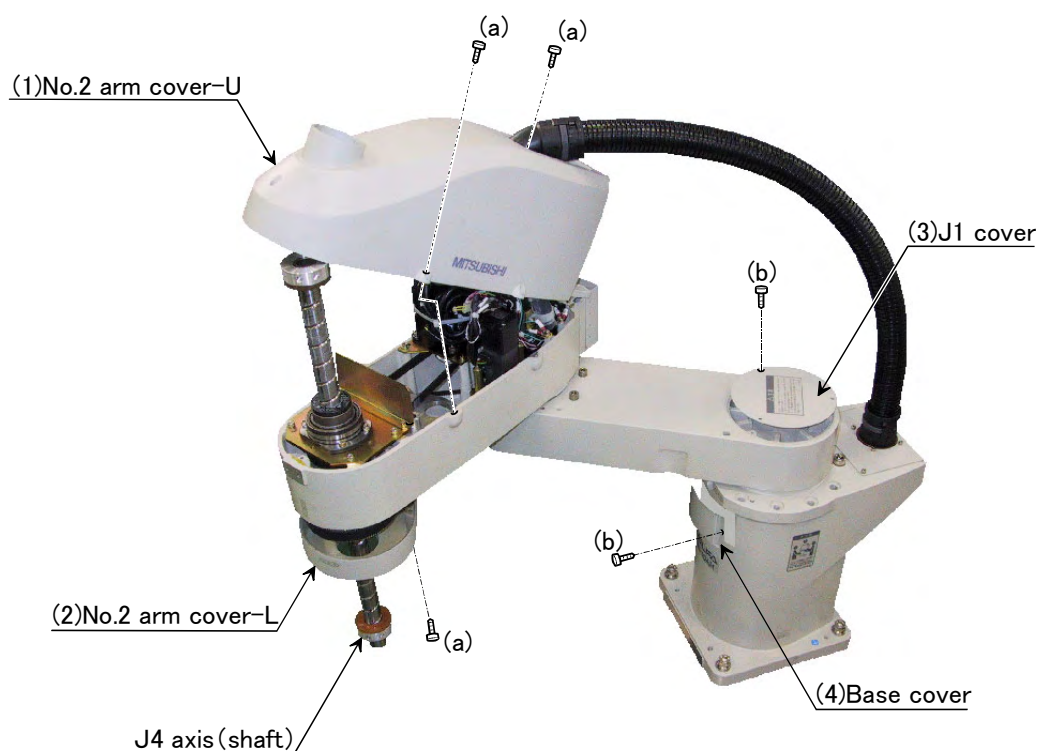

Fig.5-3 : Installing/removing the cover
- (1) Referring to Fig. 5-3, remove the covers.
- (2) Table 5-3 lists the names of the covers and installation screws.
- (3) Lower the J4 axis (shaft) using jog operations before removing the No.2 arm cover-U.
- (4) When reattaching the covers after a maintenance inspection, proceed in the reverse order of their removal.
- 2) Refer to Fig. 5-3, and remove the No.2 arm cover-U.
- 4) Check the belt tension as shown in Page 51, "(4) Timing belt tension". Lightly press the center of the belt, and confirm that the value of belt slack is in following.
- 2) Refer to Fig. 5-3, and remove the No.2 arm cover-U and No.2 arm cover-L.